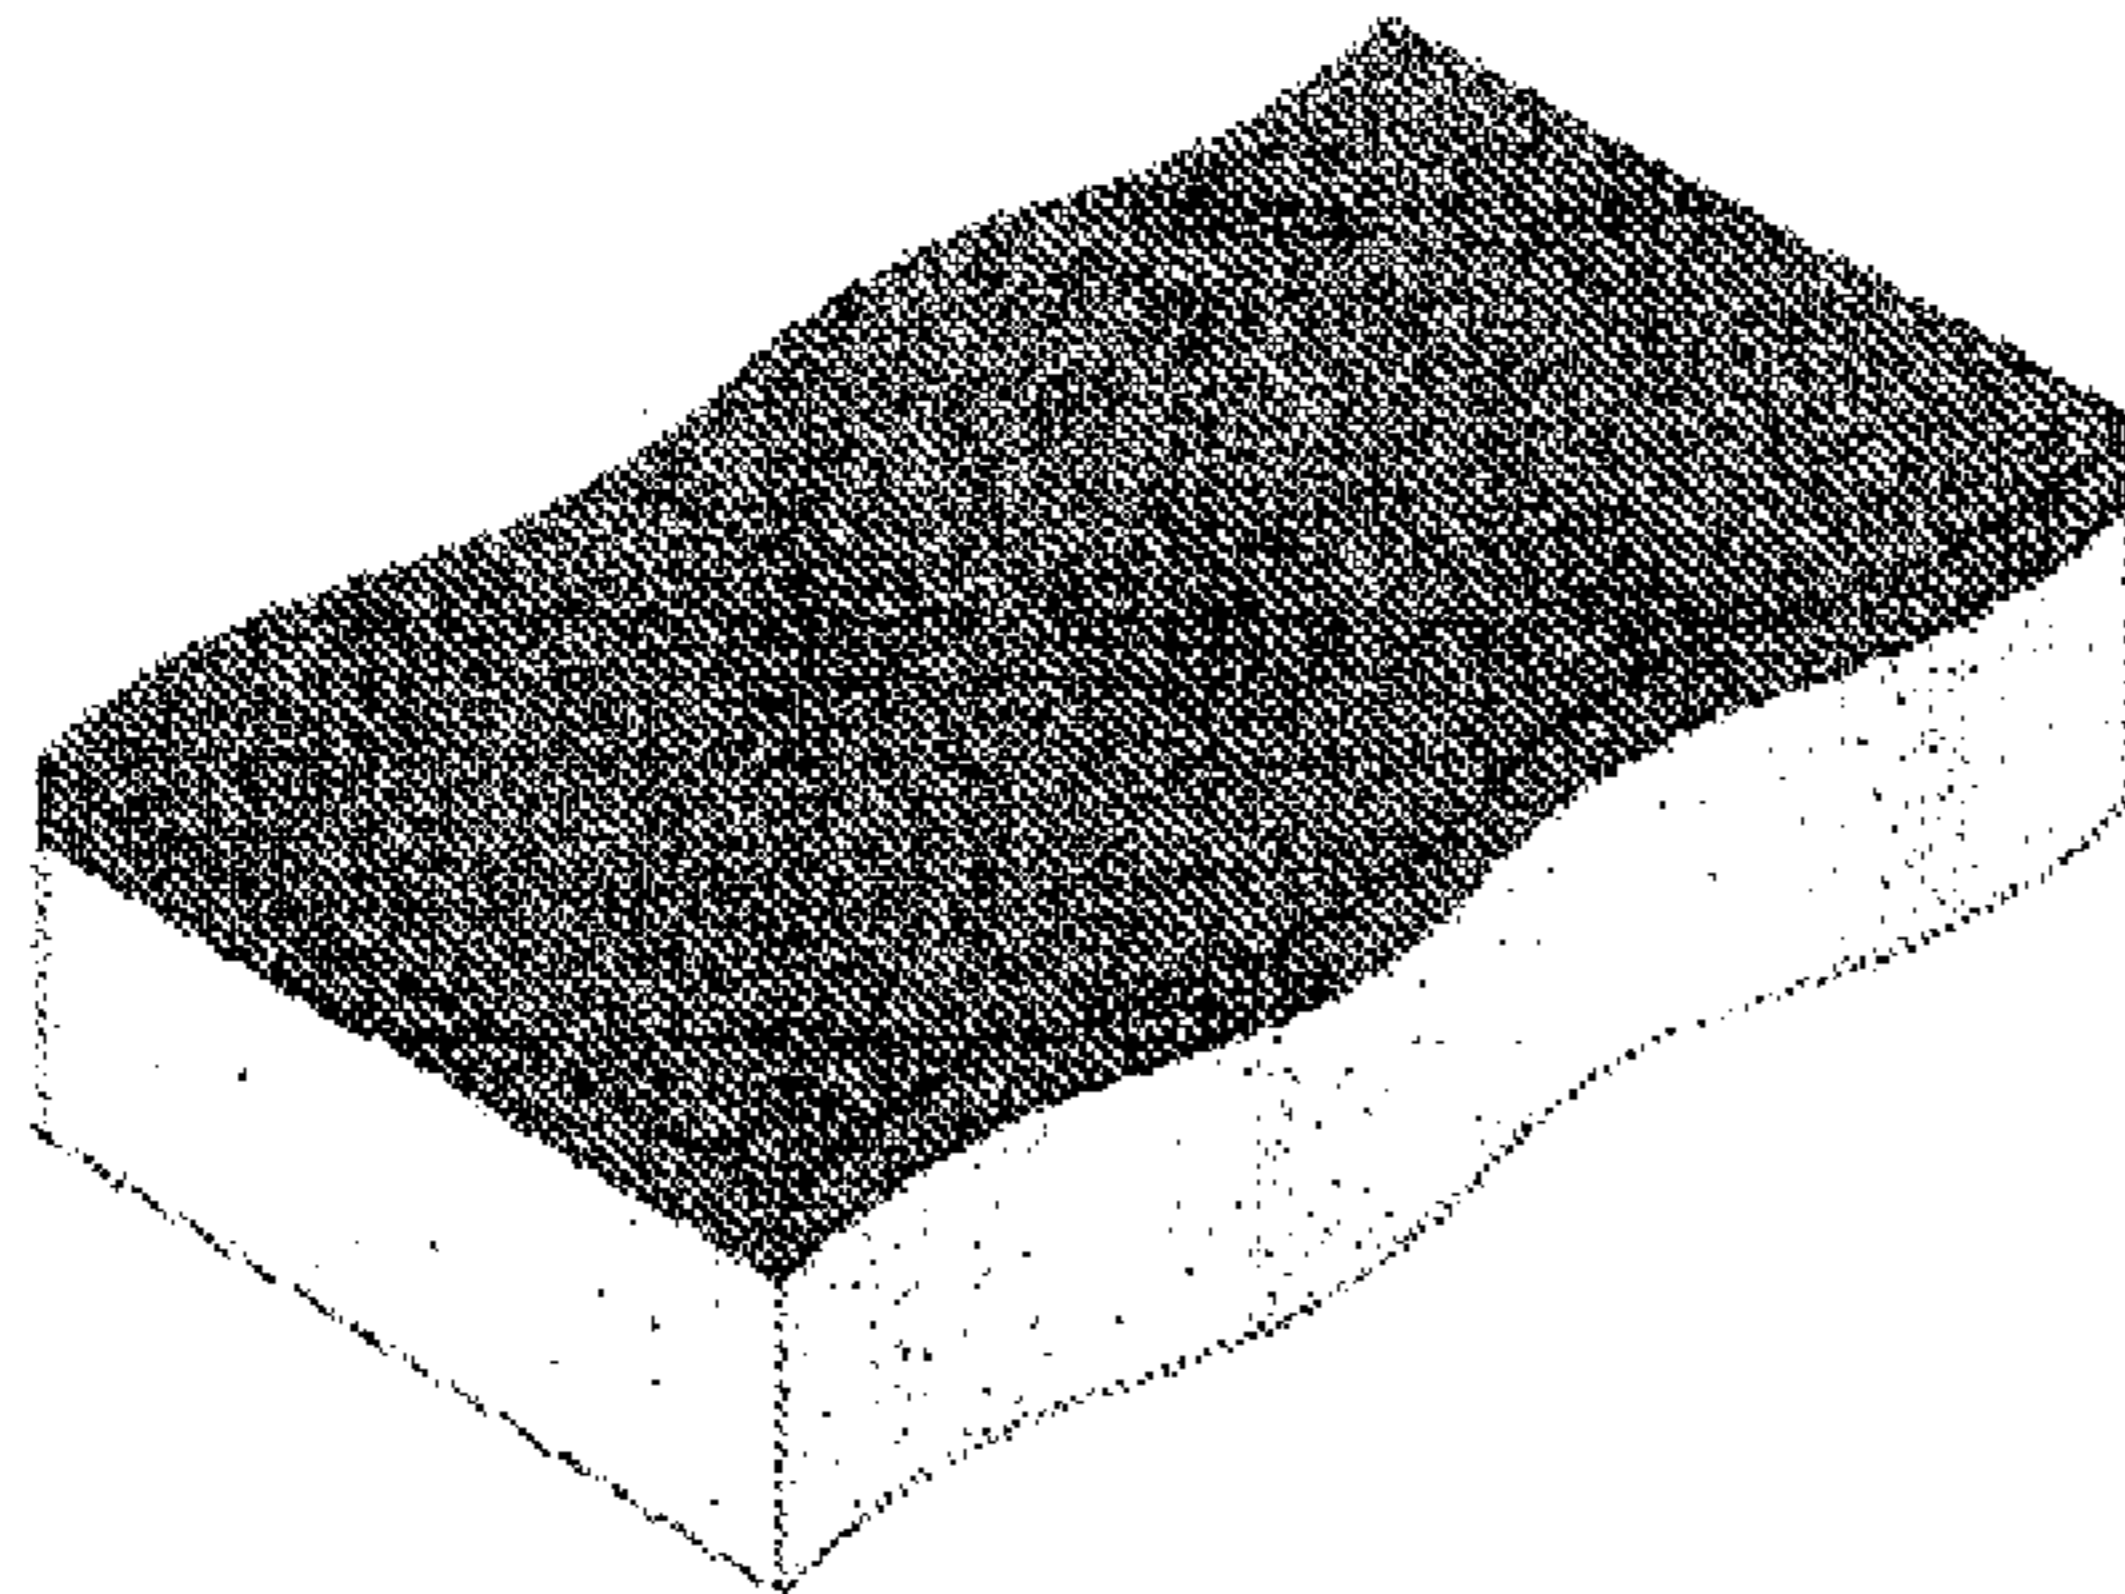

Fig.57.
--Fig. 57 is a ninth embodiment of the foam cleaning implement embodying the new design;